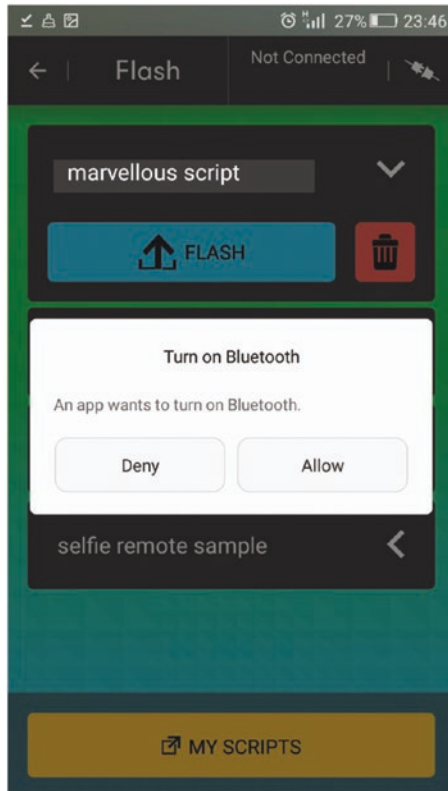

Figure B-15. *Turning on Bluetooth*
5. The app will start to flash the code into the micro:bit board with the Bluetooth connectivity. Turn on the Bluetooth on your mobile device if you're prompted by tapping the Allow button (see Figure B-15).